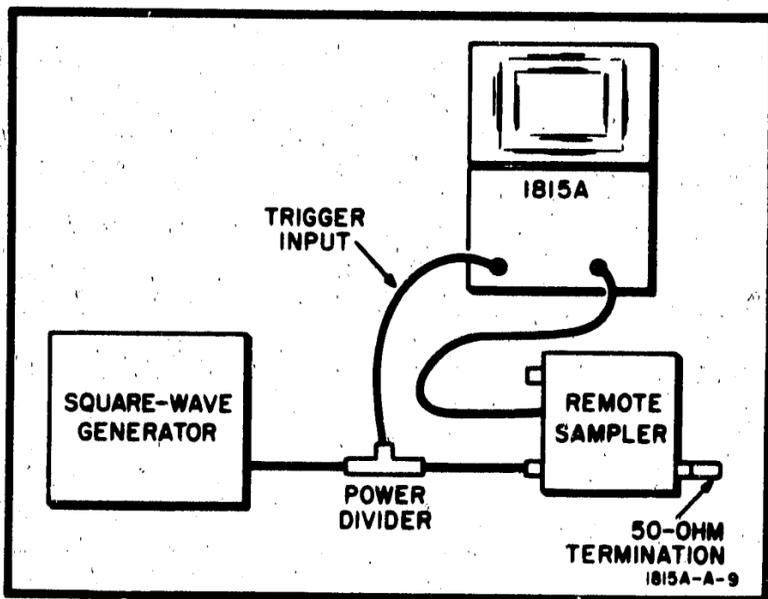

Figure 5-5. CW Triggering Test Setup
- a. Connect the equipment as illustrated in Figure 5-5.